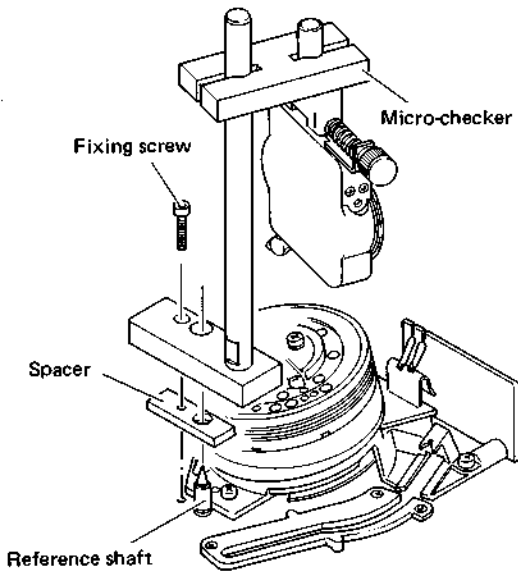

Fig. 2-3-3 Micro-checker mounting
- 3) Set the micro-checker on the reference shaft as shown in Fig. 2-3-3. Use the accessory hex wrench (metric) to tighten the fixing screw.